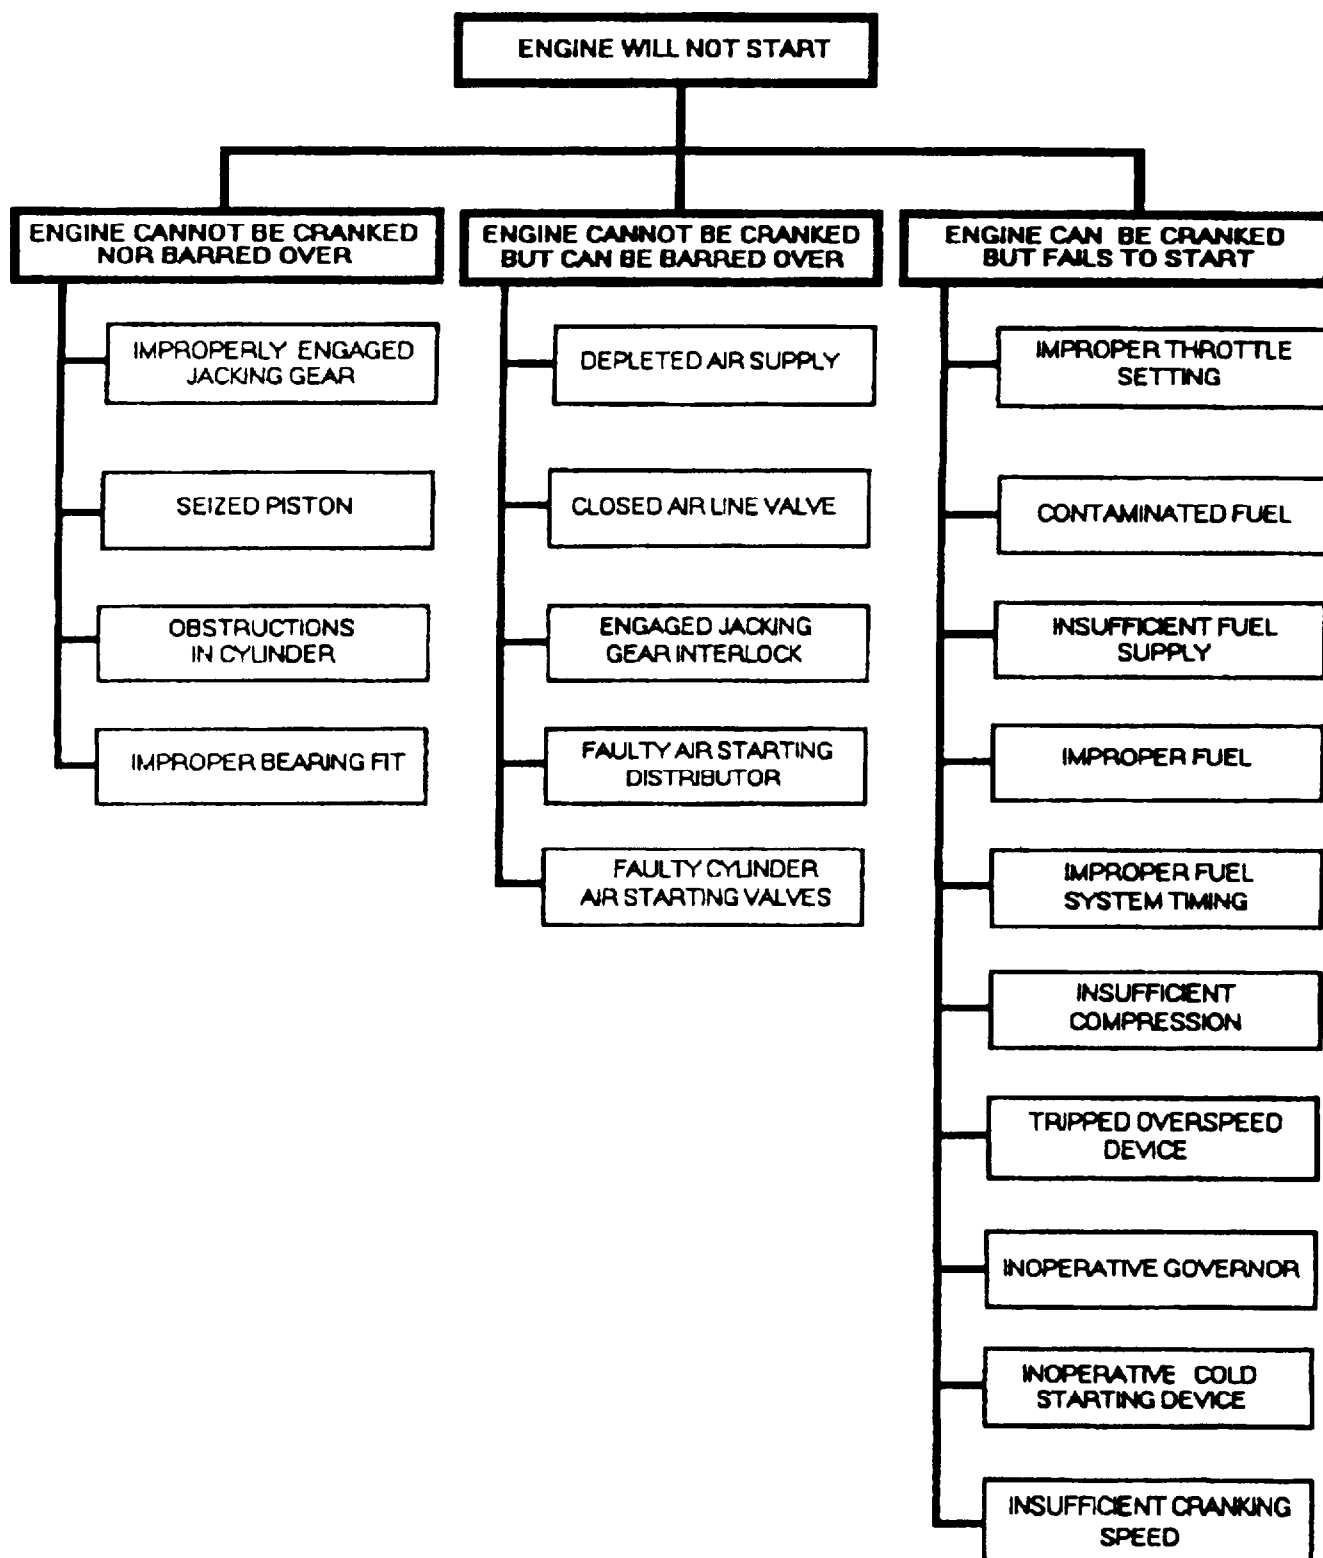

Figure 3-36.—Troubles that may prevent a diesel engine from starting.
In general, the troubles that prevent an engine from starting are (1) the engine can neither be cranked nor barred over, (2) the engine cannot be cranked, but it can be barred over, and (3) the engine can be cranked, but it still fails to start. Figure 3-36 illustrates various conditions that commonly cause difficulties in cranking, jacking over, or starting the engine.